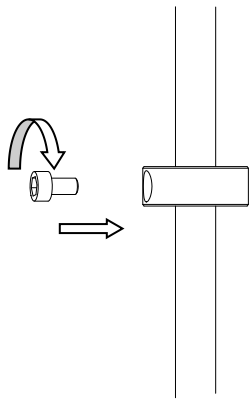

Figure 1
2. Make the stand rod through the check ring (refer to figure 1). Adjust the position of the check ring till the hole on its side is matched the hole in the middle of the rod, clockwise twist the screw to fix the checking ring and the rod.